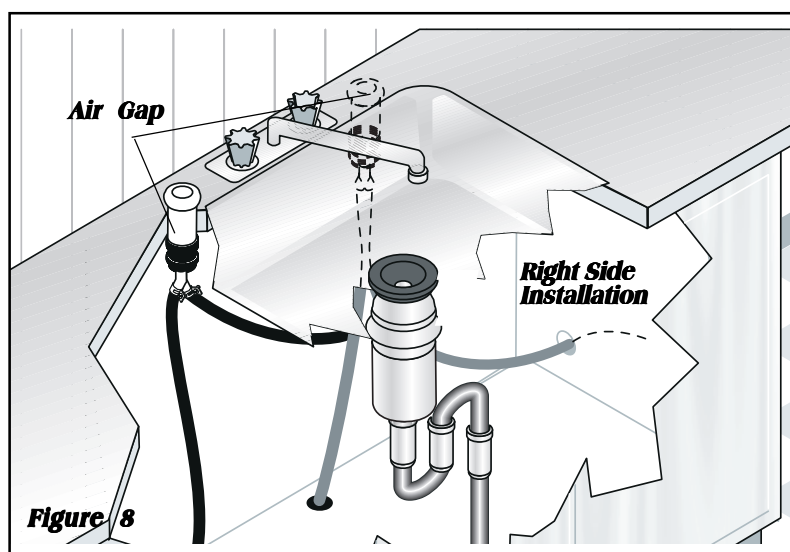

Figure 8
- If you connect to a sink trap, local codes may require you to install an air gap kit, (not included). The drain hose will be routed from dishwasher to air gap inlet as shown in **Figure 8.** An air gap kit is available from a plumbing supply store. (If the drain hose is installed through the floor, an air gap is necessary).